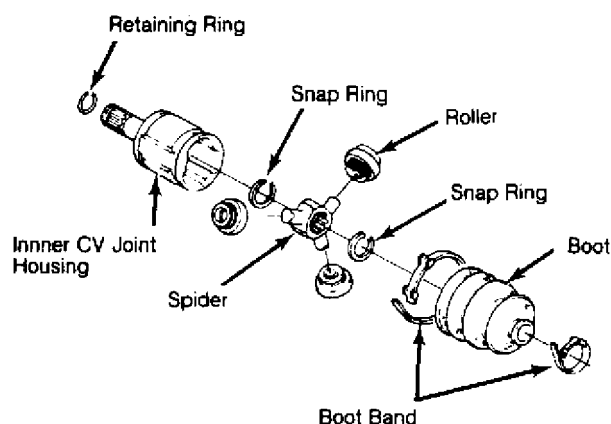

Fig. 2: Exploded View Of Inboard CV Joint Assembly (Typical)
1) Remove axle shaft from vehicle, and place it on work bench. Remove and discard inner CV joint boot clamps. Slide boot toward outer CV joint to access inner CV joint. See Fig. 2.